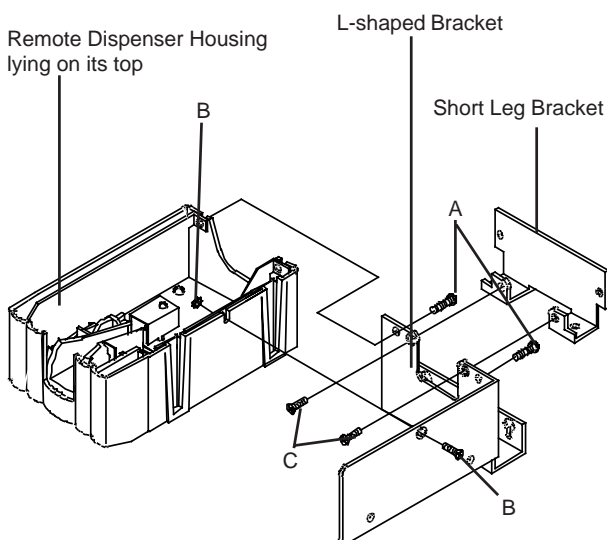

Figure 5 Remote Dispenser Housing Installation in Remote Locations
2. Lay the remote dispenser housing on its top. Place the L-shaped bracket to the left and back sides of the remote dispenser housing. Replace the two screws (1/2" x 8/32" pan head) removed in step 1 into the back of the housing to attach the bracket (See Figure 5, A).
3. Place one flat head screw (1/2" x 8/32") into the left side bottom of the L-shaped bracket. Secure it with the nut supplied. (See Figure 5, B).
4. Locate the remaining bracket and two flat head screws (1/2" x 8/32"). Line up the two holes on the short legs with the two holes on the remote dispenser housing. The long leg should point up. Screw in the two flat head screws to attach the bracket. (See Figure 5, C).